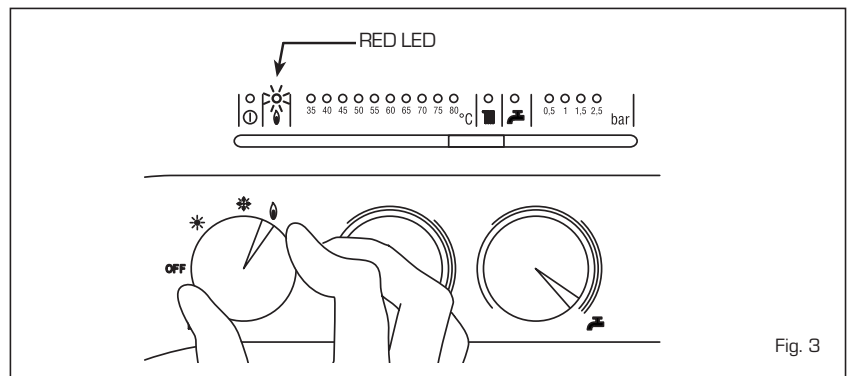

Fig. 3
**- Ignition lock-out (fig. 3)**